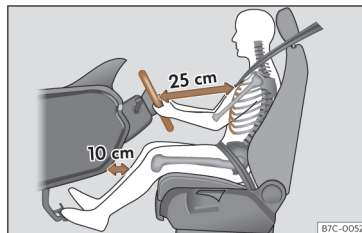

Fig. 15 The correct distance between the driver and the steering wheel must be at least 25 cm (10 inches).
- Adjust the steering wheel so that it is at a distance of at least 25 cm (10 inches) from the sternum >>> **Fig. 15** and can hold it with both hands on the sides, on the outside, with the arms slightly flexed.